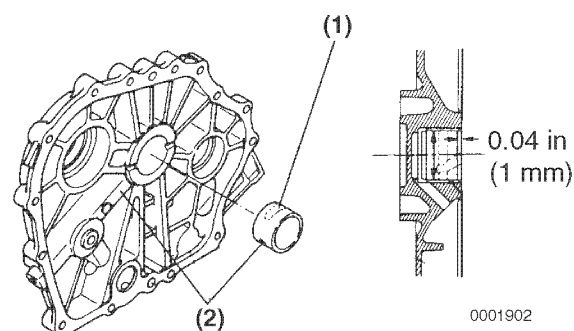

Figure 6-60
Inspect the main bearing (**Figure 6-60, (1)**) for discoloration, separation or other damage.
1. Measure the inside diameter of the main bearing insert (**Figure 6-60, (1)**) in the crankcase cover. See *Crankshaft* on page 6-8 for the service limit. Record the measurements.
- (b) When installing the new bearing insert, make sure the oil groove (**Figure 6-60, (1)**) is facing up and that the oil hole is facing the oil port (**Figure 6-60, (2)**). Install to a depth of 0.04 in. (1 mm) from the thrust surface (**Figure 6-60**).